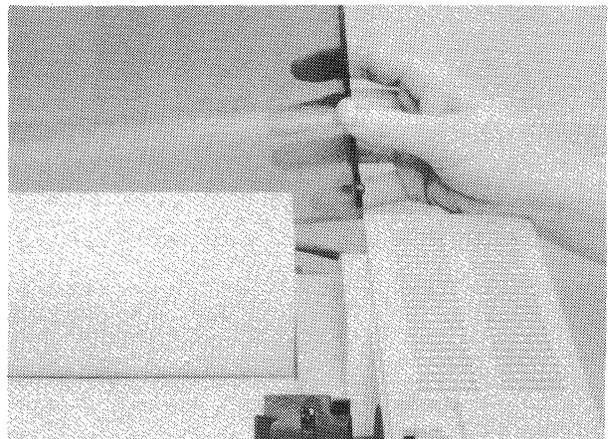

**Figure 2-6B Tractors Closed on Roll Paper**
4. Advance the paper to the front of the platen using the platen knob. Close the tractors (Figure 2-6B).